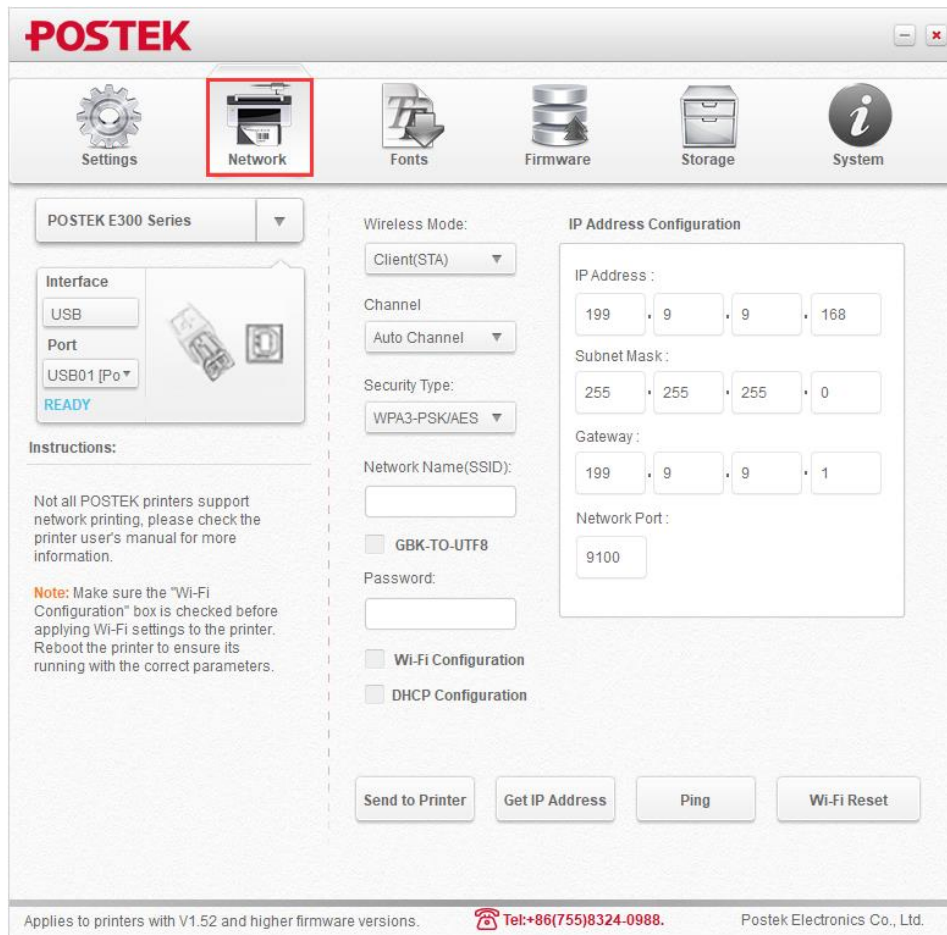

Figure 2-28 Open the Utility
4. Open the Utility software and click "Network", as shown in Figure 2-28.